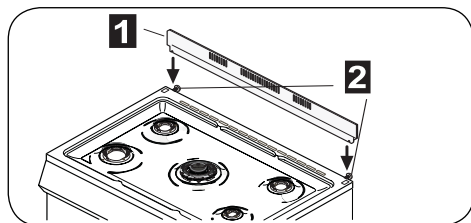

Fig. 5
- Backguard **1**. If the cookers are equipped with this accessory, leave of the factory with this particular inserted inside the packaging. In order to install the backguard, it is necessary to loosen the screws **2** positioned on the back of the hob and then to fix the backguard as indicated in figure 5